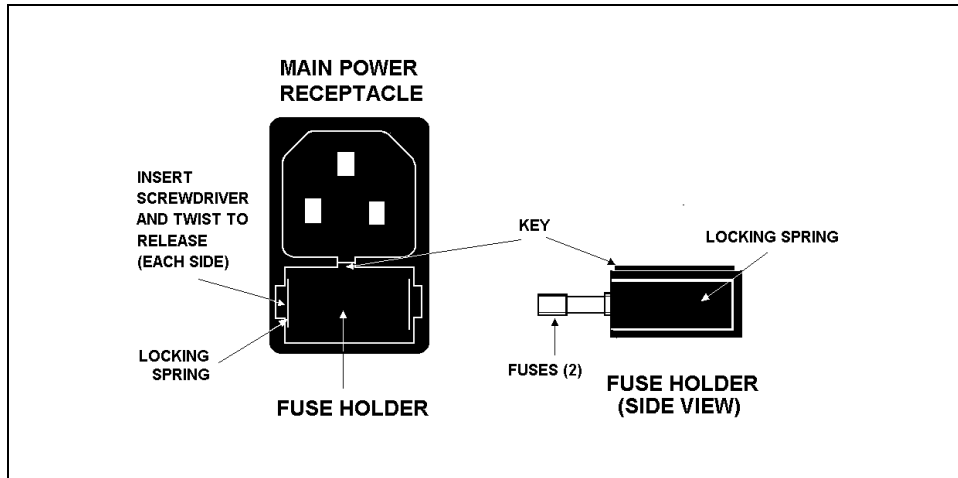

Figure 5-10. Main Power Fuse Holder
2. The fuse holder is part of the main power receptacle on the rear panel (see Figure 5-10). A recessed lock is located on each side of the fuse holder. Using a small screwdriver or your fingernails, push each lock toward the center to release it. The fuse holder pops out approximately $\frac{1}{16}$ -in when the locks release. When both locks are released, pull the fuse holder straight out of its compartment.